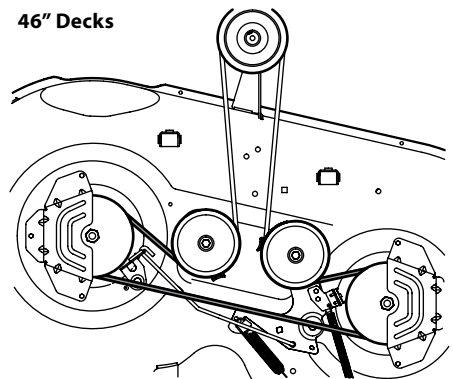
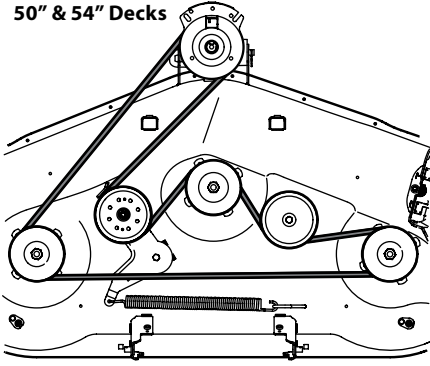

Figure 4-16
Figure 4-17
- Route the new belt as shown in the applicable figure on the following pages. See Figure 4-16 for 42" decks, Figure 4-16 for 46" decks and Figure 4-17 for 50" & 54" decks.